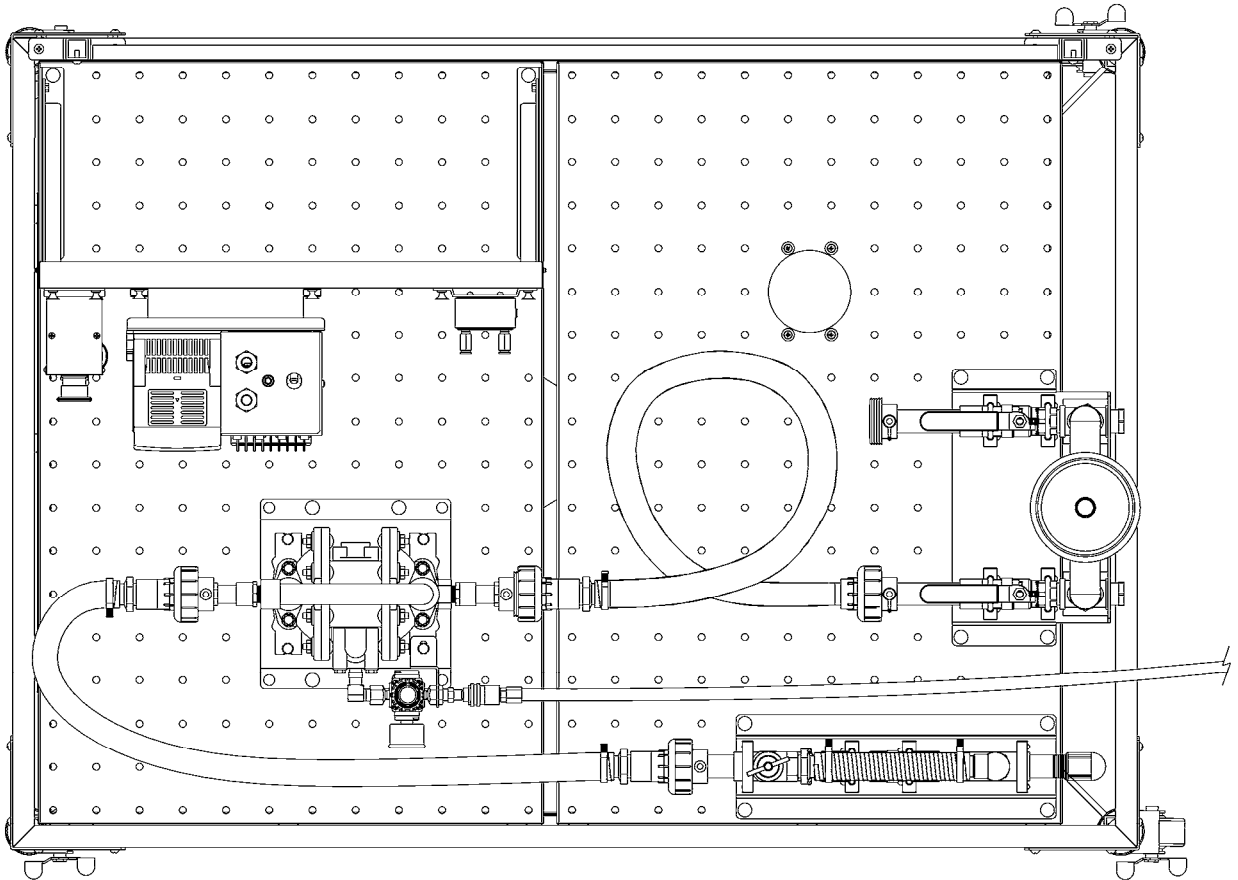

Figure 1-5. Pumping circuit using the Pneumatic Diaphragm Pump.
- 6. Set up the pumping circuit shown in Figure 1-5.